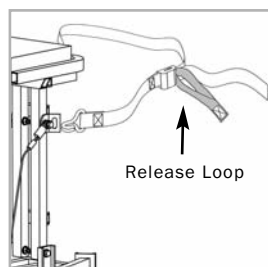

fig 2
Step 2: While holding **STAND**, pull **RELEASE LOOP** on **TREE STRAP**. It will loosen (fig 2).